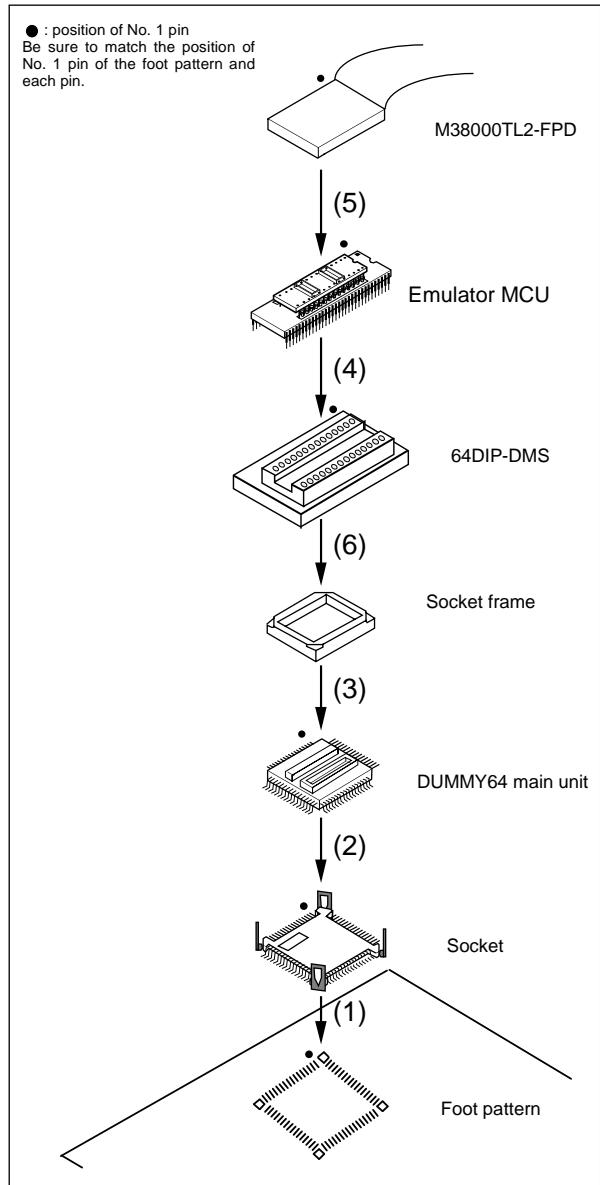

Figure 2 Usage of M3T-64DIP-DMS
4. Application (see Figure 2)
5. Connection Procedure (see Figure 2)